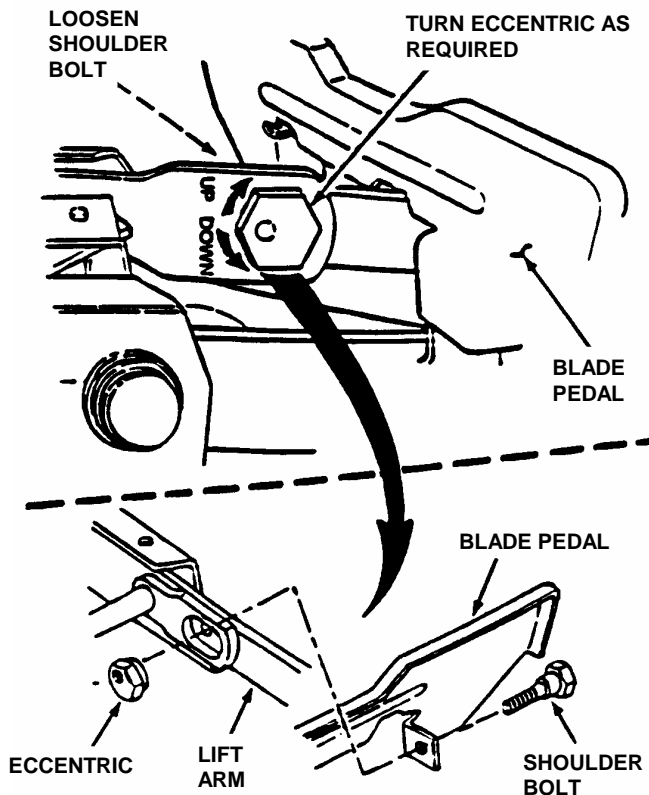

FIGURE 4.4
6. Loosen the shoulder bolt retaining the left side of blade pedals. See Figure 4.4.
7. Turn eccentric "UP" or "DOWN" as required until blade tips are within 1/8" of each other. See Figure 4.4.